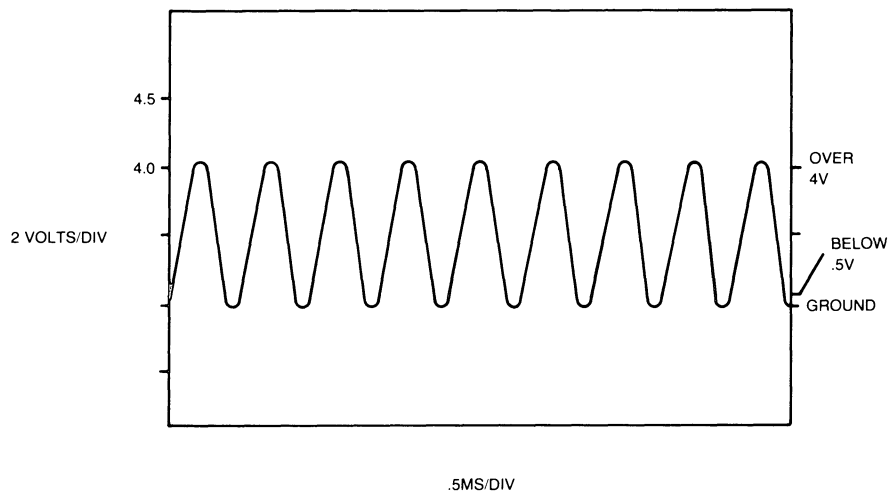

Figure 5.35 Horizontal Motion Transducer Oscilloscope Reading
11. Self test printing should begin and the trace on the oscilloscope should look like Figure 5.35 when the printer is moving at full speed. Waveform will expand as the printer decelerates at the end of each line.